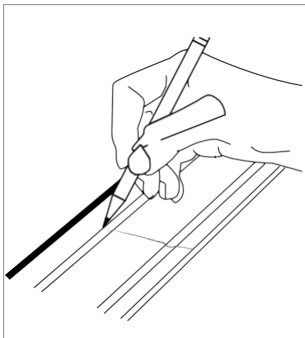

Figure 1
4. Begin by peeling back the protective cover on the Xtrafloor underlay and lay the first row in the corner of the room on your left hand side as you are looking at the wall. Always work from left to right and with the tongue towards yourself. Figure 1.
- ▶ **1.1** Measure length 1 from the external edge of the architrave to the inside corner of the room. Transfer this measurement onto a length of skirting board and mark accurately with a pencil. Cut the skirting board to length using square cuts with the aid of a fine toothed saw and saw block. Position the skirting board to check length. See Fig 1.